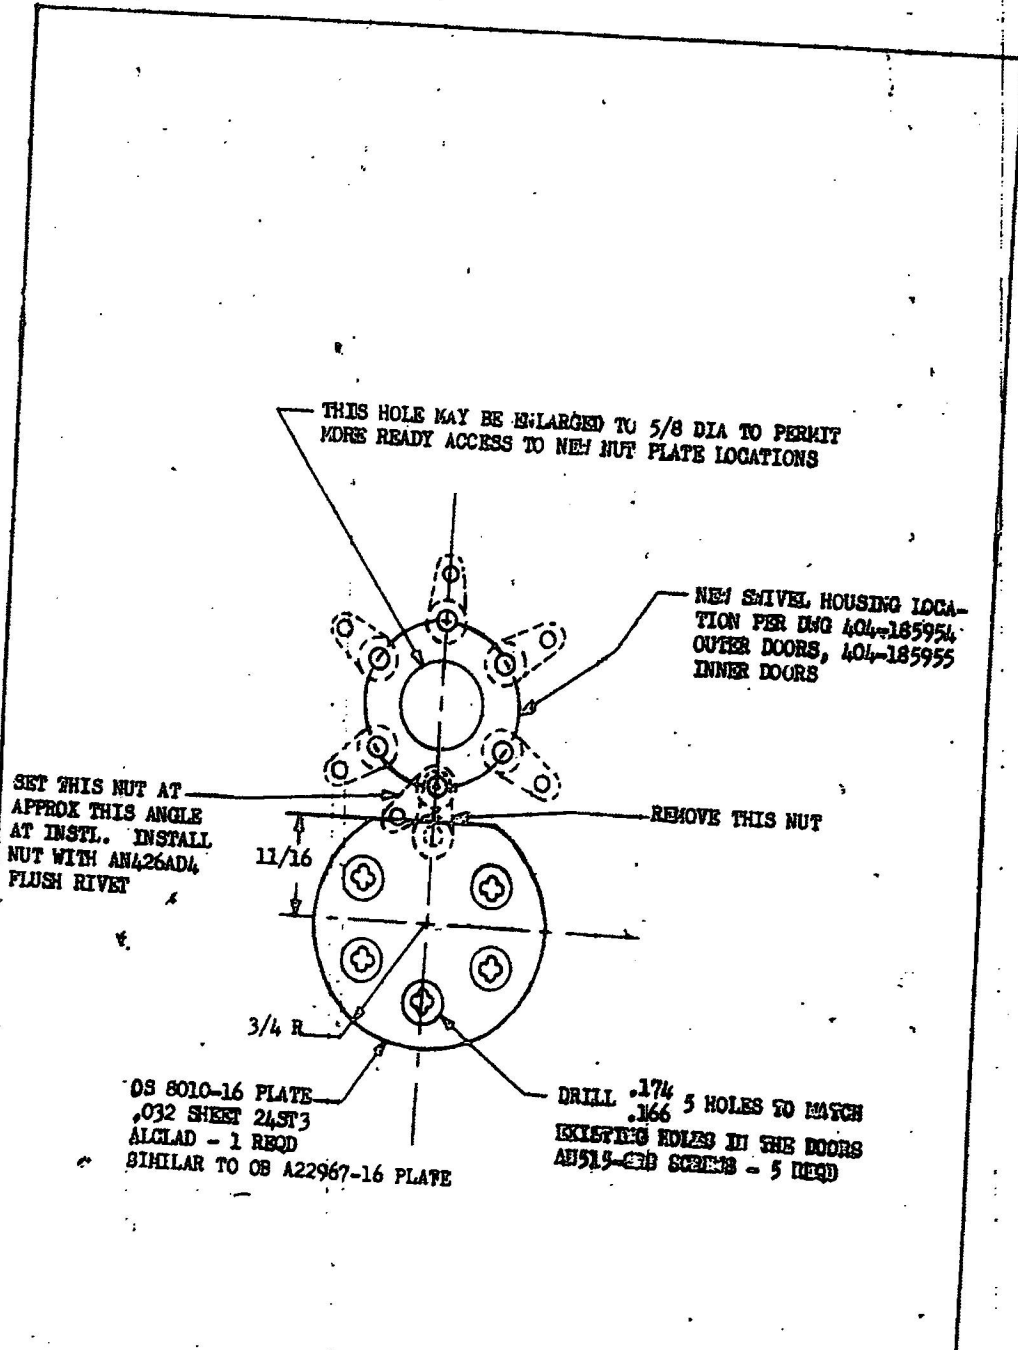

FIGURE 1
- (e) Relocate swivel housing to agree with information contained on Drawing 404-185954 and shown in Figure 1. Add OS 8010-16 plate as shown. (C-45G and C-45H only)
- (e) Relocate swivel housing to agree with information contained on Drawing 404-185955 and as shown in Figure 1 of this specification.